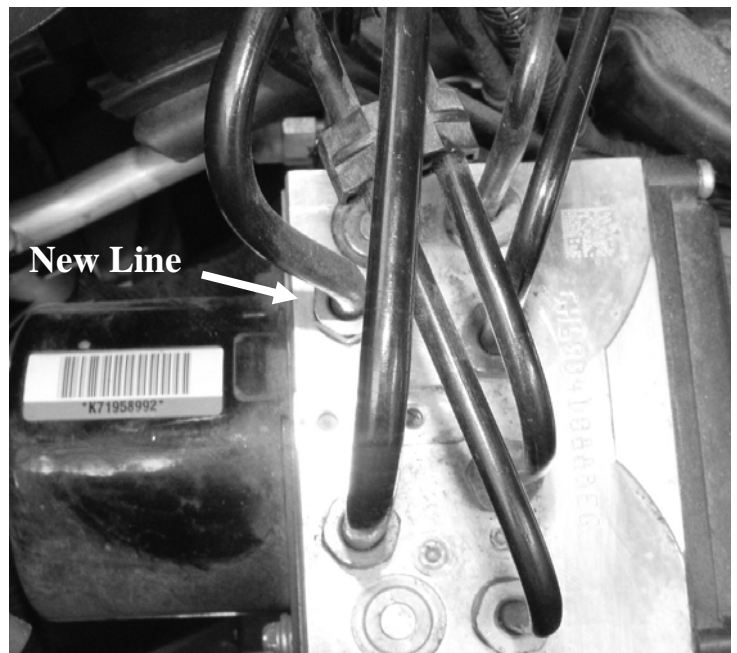

Figure 2
Step 5. Install the two brass NPT adapters onto the Roll Stop® and install the Master Cylinder to Roll Stop® Brake Line # TCI-04 ABS to Master side of Roll Stop® and Brake Line #TCI-03 onto the Brake side of Roll Stop® and ABS System. (Figure 2) Finger tighten the nuts.
8. Wiring the solenoid. The solenoid has two (2) wires: one (1) ground wire and one (1) "hot" wire that will be connected to +12 volt source. Proper connection is required. When connecting wires, use the supplied connectors or other electrical connectors. If additional wire is required, use only the same gauge or larger.